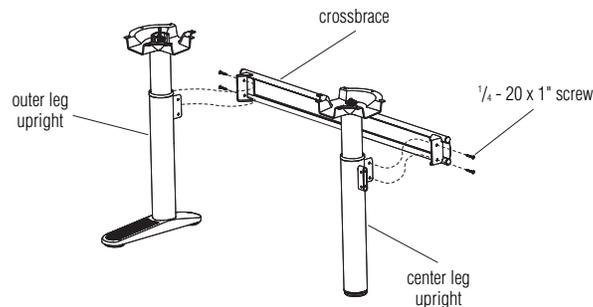

Figure 1
2. With the center leg upright supported, space an outer leg upright apart to attach the crossbrace. Attach the appropriate crossbrace to both leg uprights with four 1/4-20 x 1" screws (Figure 1). Do not tighten the two screws that attach the crossbrace to the corner leg upright.